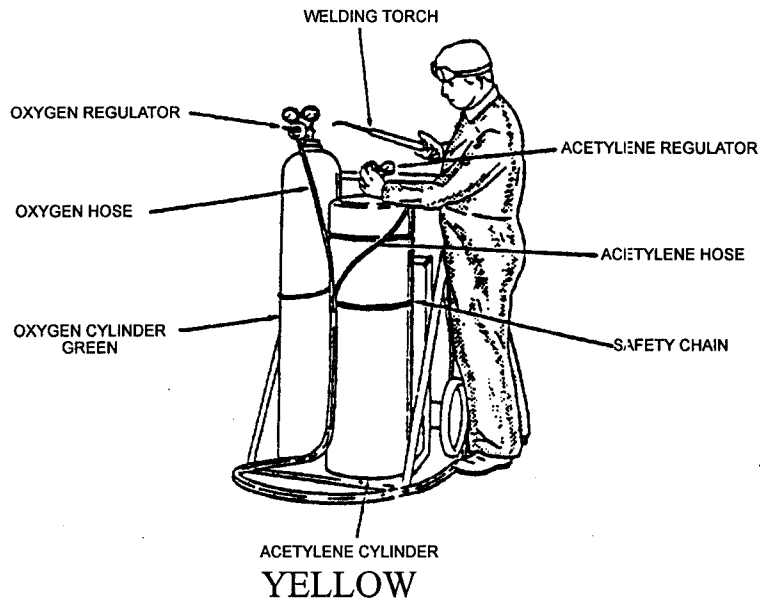

Figure 3-5 Oxygen Acetylene Outfit
- a Personnel using a cutting outfit must wear leather welder's gloves and a leather welder's jacket or apron and goggles. Fire retardant coveralls and safety shoes are also required (See **Figure 3-5.**)